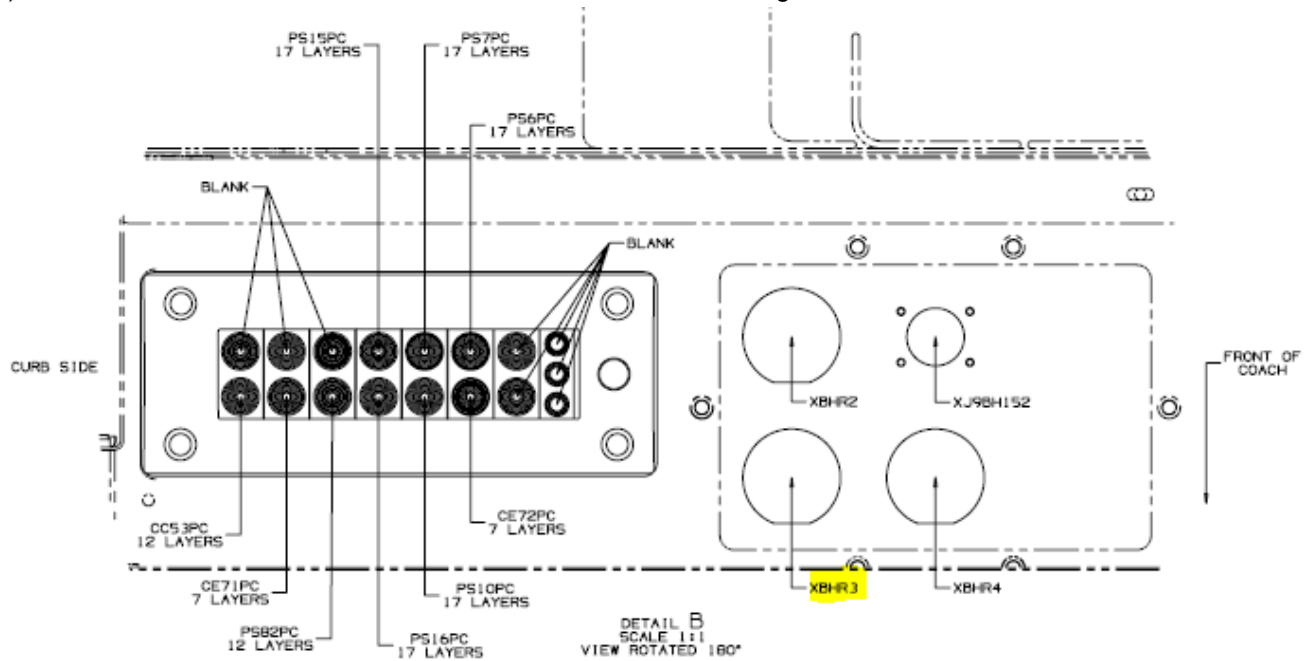

Figure 7. Rear bulkhead with connector XBHR3 indicated.
- 25) Locate XBHR3 at the rear curbside bulkhead shown below in Figure 7.